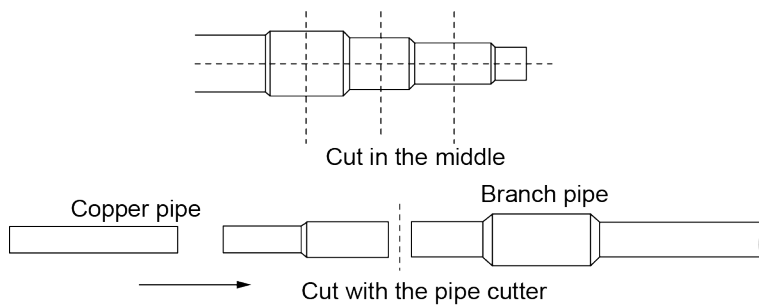

Fig.3.4.4
- 3) Manifold has several pipe sections with different pipe size, which facilitates to match with various copper pipe. Use pipe cutter to cut in the middle of the pipe section with different pipe size. See the Fig.3.4.4 as below.